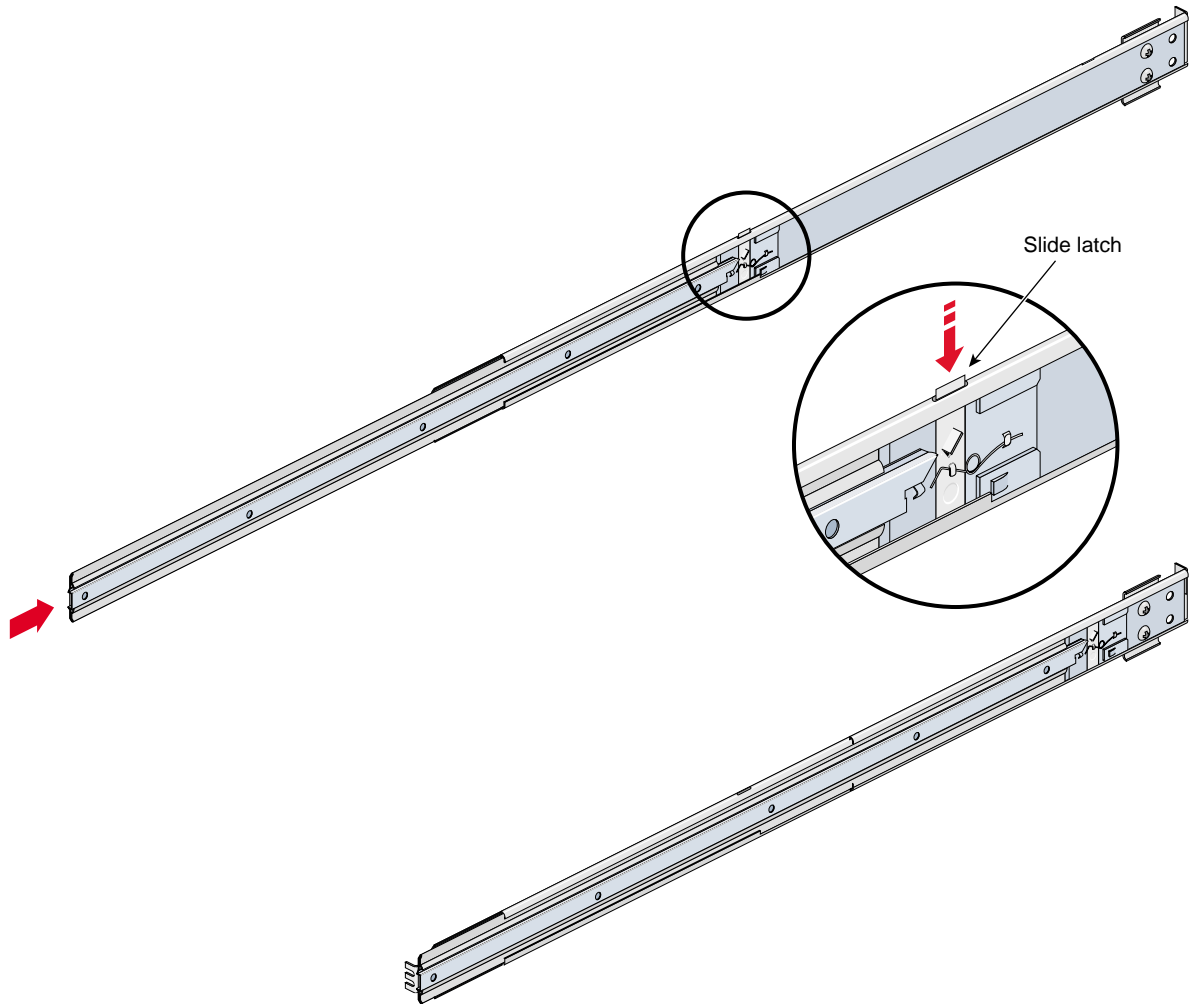

Figure B-11 Releasing the Slide Latches
7. To slide the slide rails back into the rack, push down on the slide latches as shown in Figure B-11.